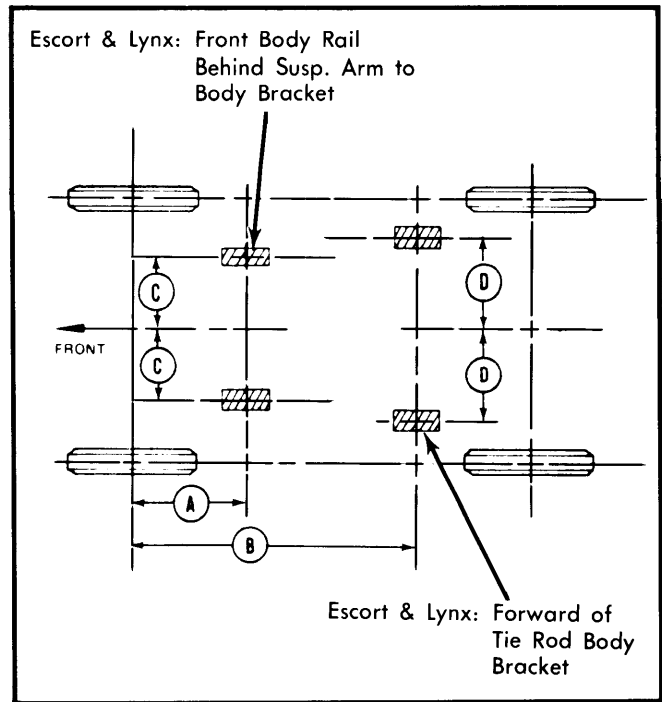

Fig. 5 Ford Motor Co. Frame Contact Points
**Hoisting** — Ensure that hoist manufacturer's instructions are followed. Frame contact must be made and adapters used to lift vehicle in accordance with frame contact chart and Fig. 5. On Escort and Lynx models, front contact points are at front body rail behind suspension arm-to-body bracket. Rear contact points are forward of tie rod body brackets.